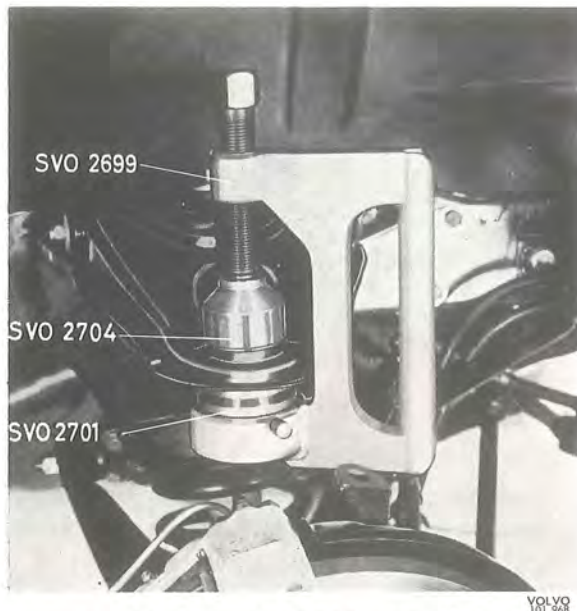

Fig. 6-23. Fitting the ball joint, upper wishbone
2. Press the ball joint into the wishbone with press tool SVO 2699, sleeve 2701 and drift 2704, see Fig. 6-23. Make sure that the slot in the ball joint coincides with the longitudinal shaft of the wishbone either externally or internally (Fig. 6-22) as the pin has maximum movement in the direction of this line. Should the ball joint be incorrectly fitted when being pressed in, turn the tool SVO 2699 half a turn and then press the ball joint into the